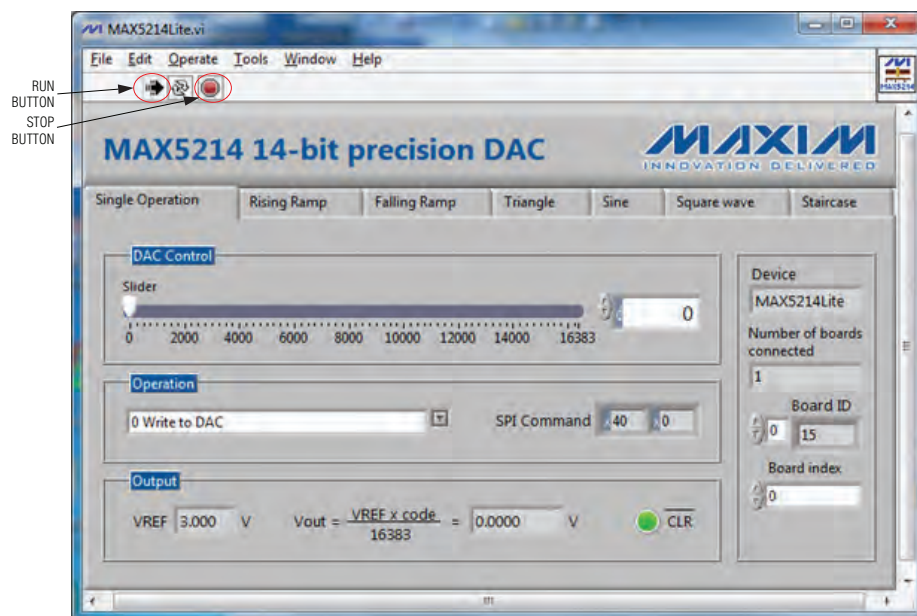
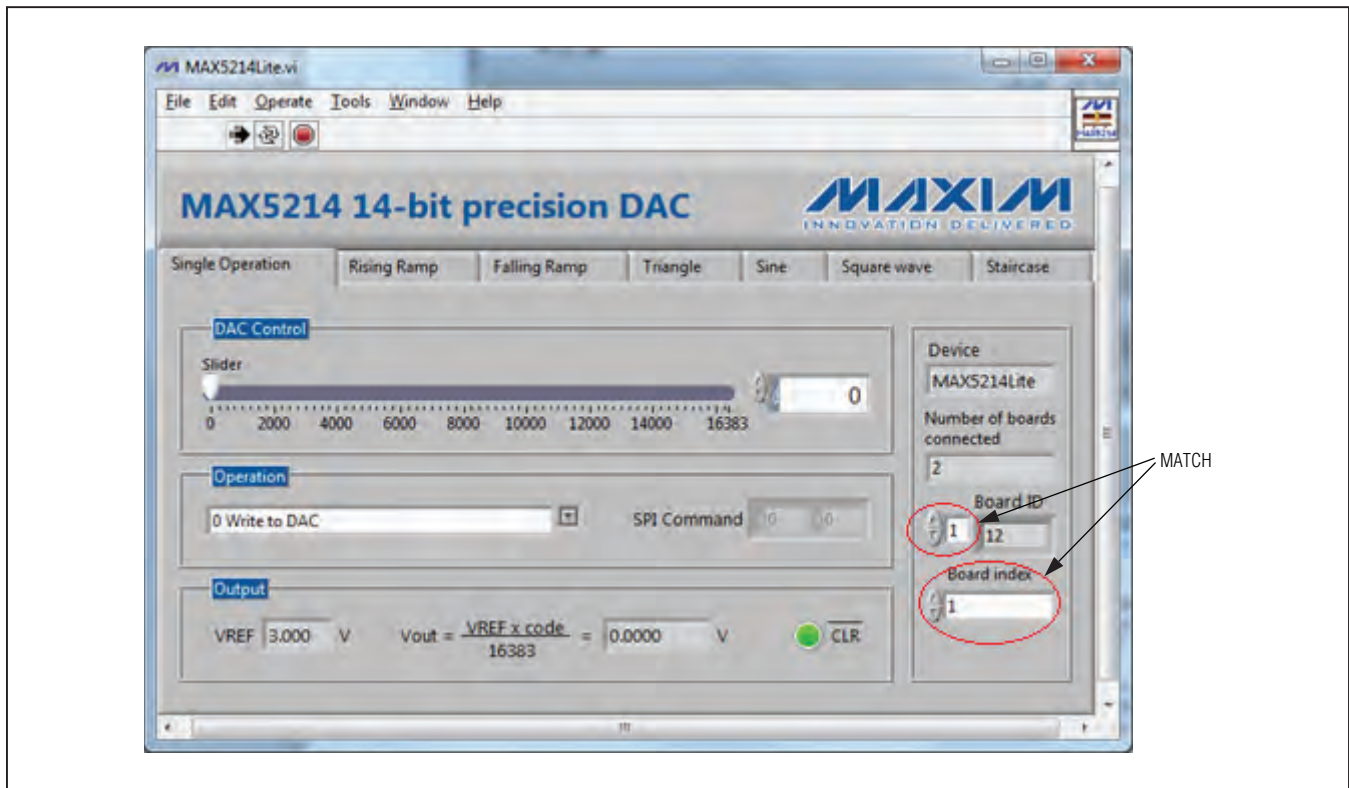

Figure 2. GUI Single Operation Tab
Figure 3. Select the Board Index in the System with Multiple Boards
- Run the MAX5214Lite.exe program. The application's GUI window appears, as shown in Figure 2.
The **Single Operation** tab (Figure 2) is active by default. The application checks all the boards with the USB VID/PID 0x0B6A/0x1234 that connected to the PC and indicates them on the right side of the GUI. Up to 16 boards can be connected to the system. Each board has its own unique board index even though the board ID could be the same. In order to communicate with a particular board, the **Board ID** index should match with the **Board Index** box (Figure 3).